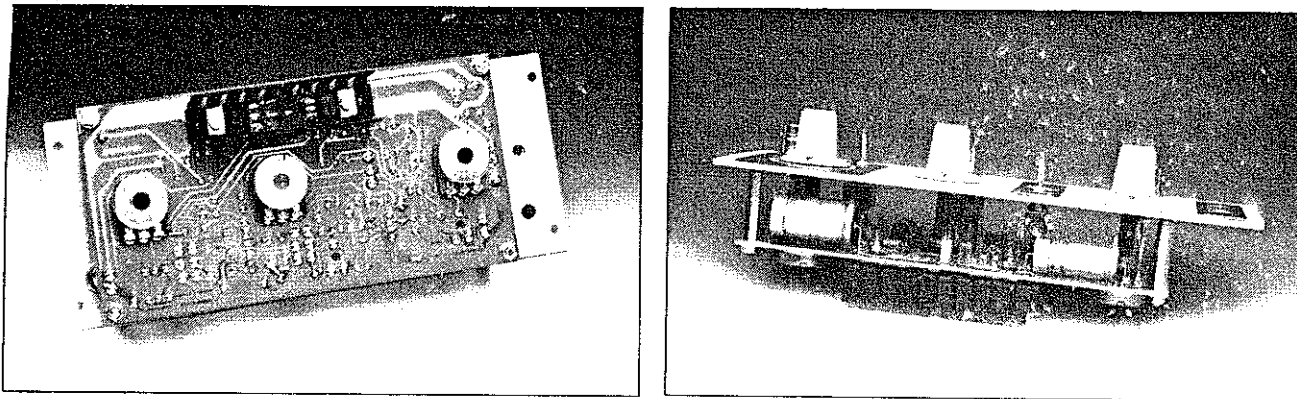

Fig 5. Completed PCB-front panel assembly seen from the PCB track side (left) and from the side (right).
- As shown in Fig 5, IC3 and IC4 are fitted at the track side of the board. Do observe their correct orientation and the electrical insulation of the heat-sinks.